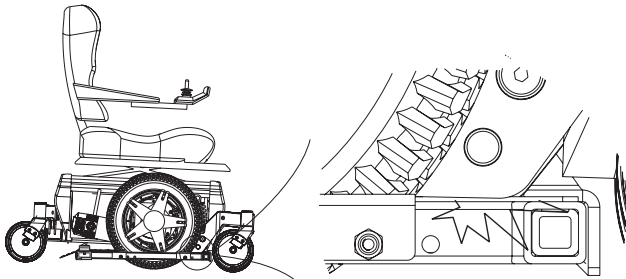

Figure 6-18
- If the power chair's front caster frame contacts the platform, or if the power chair is leaning too far to the passenger's side, remove one or two of the three platform pads. Always re-attach the top pad with a chamfer using the same screws. The platform **must** have at least the top pad attached. *See Figures 6-18 and 6-19.*